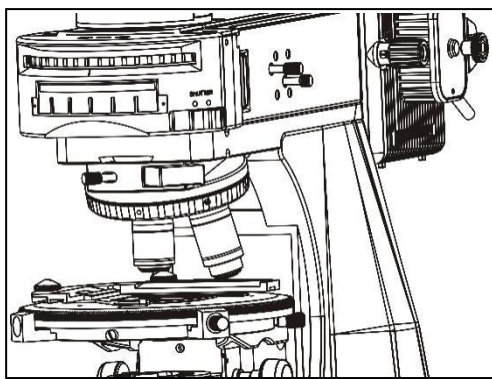

Figure 11
**4-2-9 Install objective lens (figure 11)**